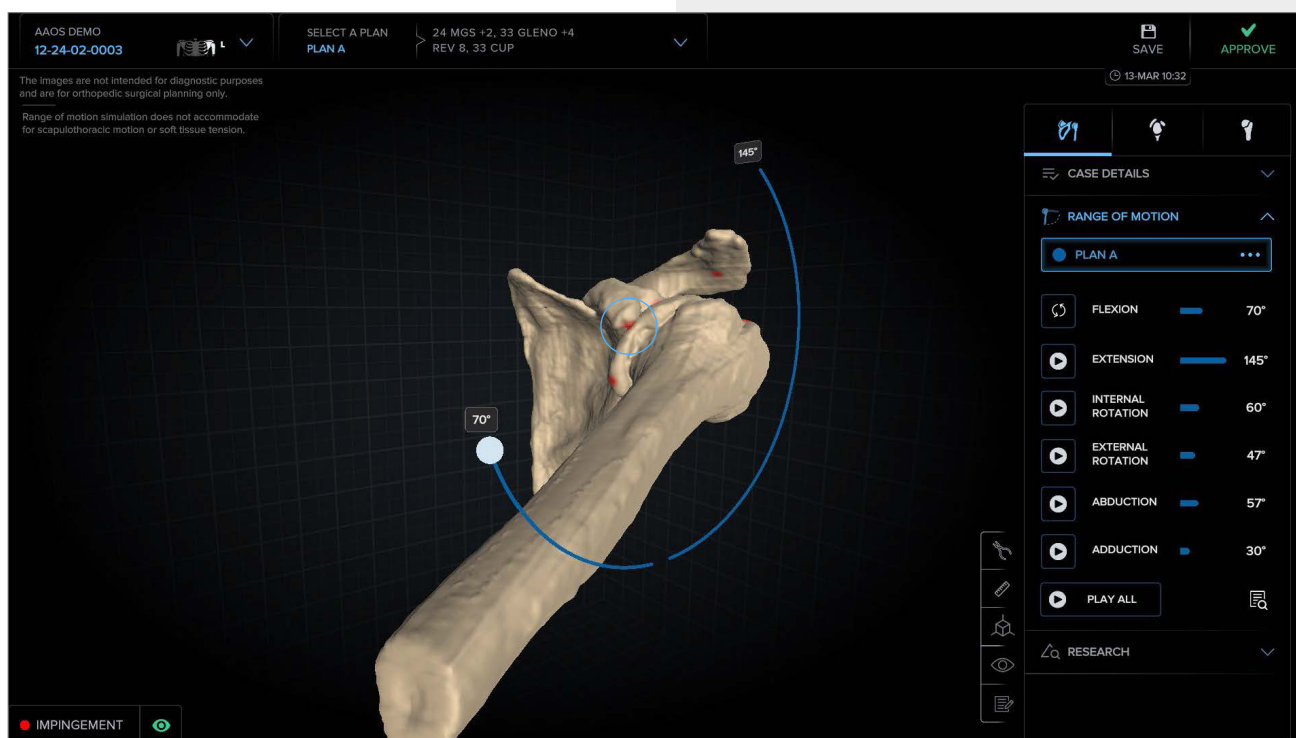

Figure 68. Flexion/extension arc
- When playing a motion, the humerus will move along the defined arc as shown for flexion in Figure 68 until impingement occurs, as denoted by the red mark circled in Figure 68.
- The break in the arc is a neutral arm position and denotes the separation between the two motions making up the complete arc, as shown with flexion and extension in Figure 68.